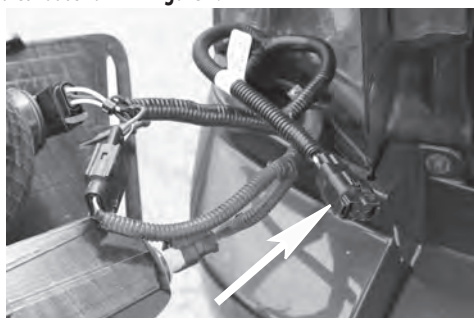

Figure 1
3. Identify protective dust cover from T-Connector add-on breakout shown in **Figure 1**.